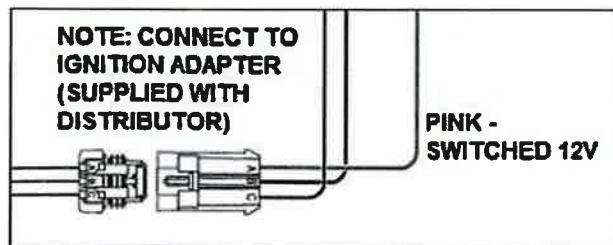

Figure 5
9. Now, plug the 3 pin distributor connector into the 3 pin connector on the provided wiring harness (**Figure 5**).